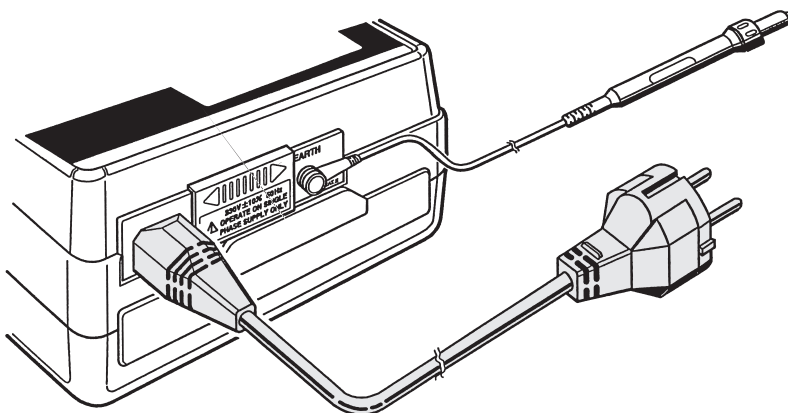
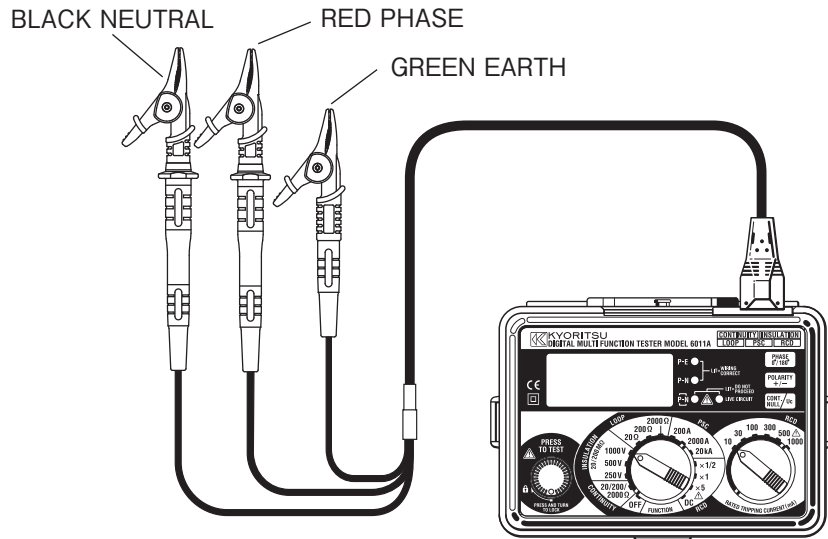

Fig 9
Fig 10
2. Connect the mains lead to the IEC socket of the instrument (see fig9).
4. Connect the instrument to the RCD to be tested either via a suitable socket outlet (see fig 9) or using the OMA DIEC(Model7133B) test lead set (see fig 10) .